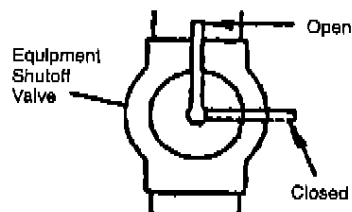

Figure 8. Equipment Shutoff Valve
1. Close equipment shutoff valve (see Figure 8).